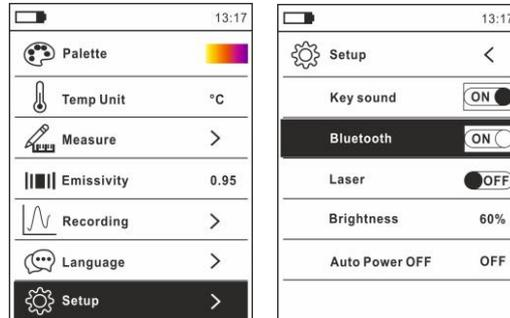

Fig. 47: Activation of Bluetooth connection
1. Press key /INRUSH, select menu "Setup" and activate the Bluetooth connection on the instrument (see § 0) as shown in Fig.47